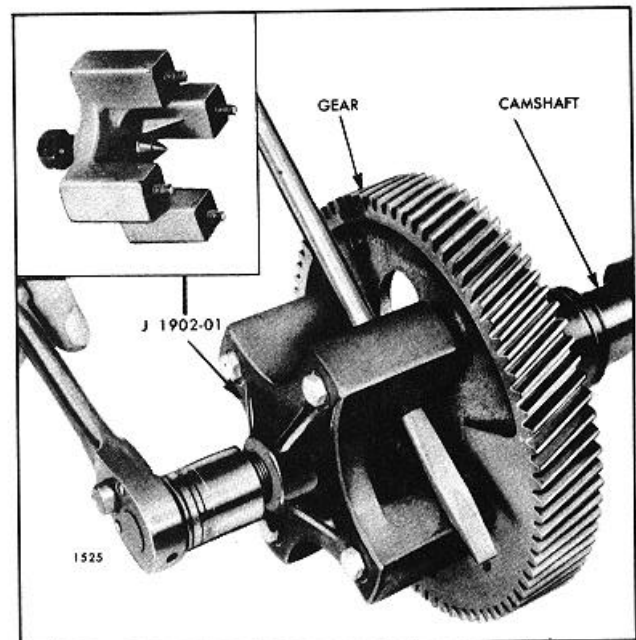

Fig. 2. Removing Gear (Camshaft or Balance Shaft)
4. Back out the puller screw of tool J 1902-01 and attach the puller to the outer face of the gear with four bolts (Fig. 2).